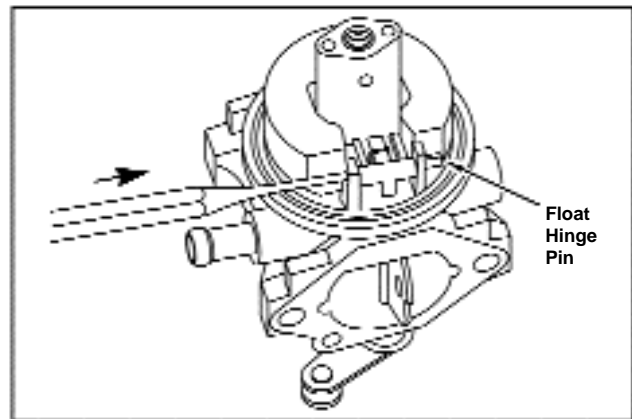

Figure 14- Removing Float Pin
Float hinge pin is a press fit. One end of float hinge pin has two (2) flats. Tap opposite end of pin until pin is loose and then remove pin, float and inlet needle assembly. See Figure 14.